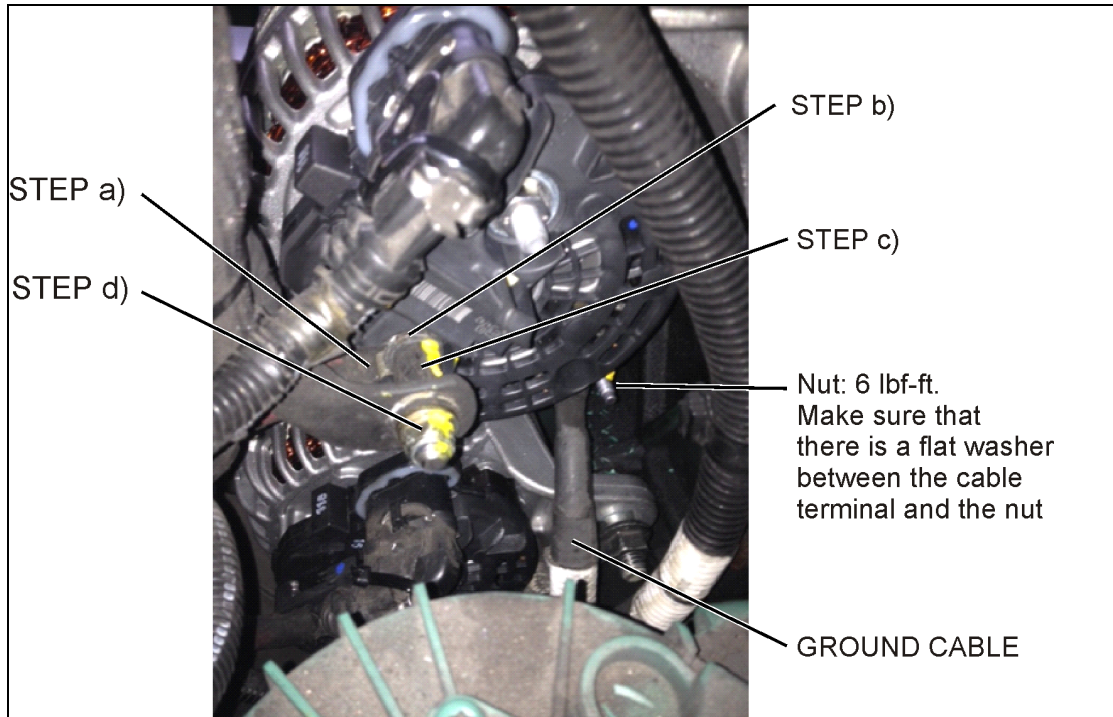

FIGURE 28
- a) Install jumper cable (a.k.a. positive cable) onto **B1+** stud terminal on upper alternator (FIGURE 28).
- b) Place one new flat washer #5001341 against the cable ring terminal (FIGURE 28).
- c) Screw and tighten the adapter stud #060297 (torque: 10 lbf-ft) (FIGURE 28) prior installing power cable.
- d) Fit the power cable terminal onto adaptor stud, place one new flat washer #5001341 against the power cable terminal and screw a new nut #5001983 (nut torque: 10 lbf-ft) (FIGURE 28).
15. Fit the ground cable onto the alternator ground stud, place one new flat washer #502573 against the ground cable terminal and screw a new nut #5001182 (nut torque: 6 lbf-ft) (FIGURE 28).